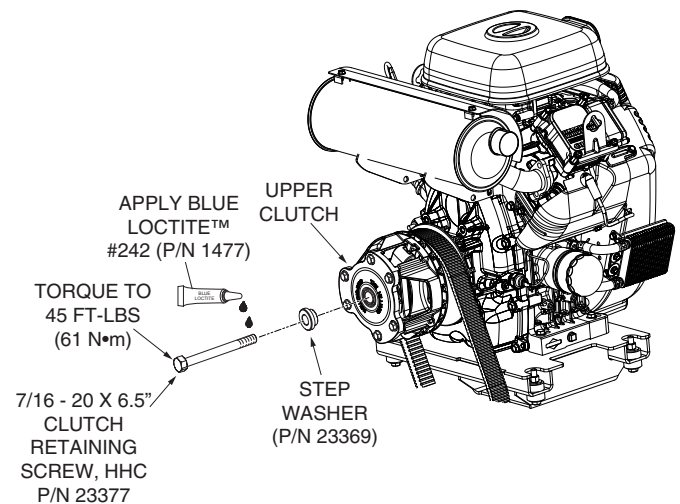

Figure 12. Upper Clutch Fastening
2. Apply Blue Loctite™ (P/N 1477) to clutch retaining screw threads as shown in Figure 12.
4. Using a 5/8" socket, tighten the 7/16-20 x 6.5" clutch retaining screw and step washer to secure the upper clutch to the engine shaft as shown in Figure 12.
5. Torque the clutch retaining screw to 45 ft-lbs (61 N·m) as shown in Figure 12.